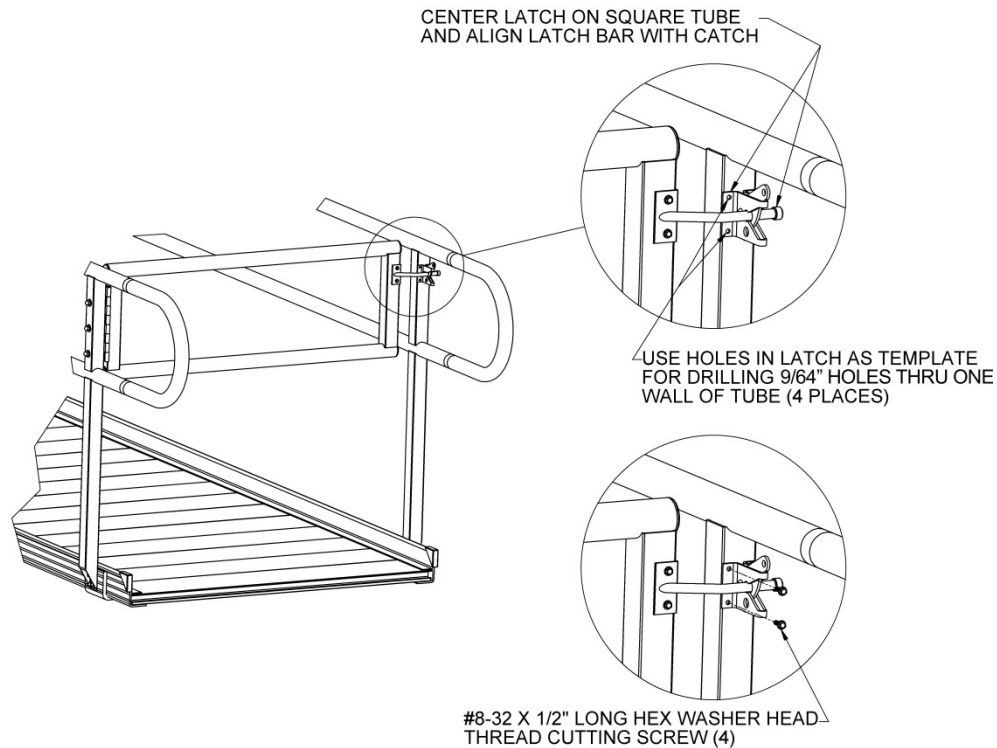

FIG. 5
- 2.9. Hold the latch so it is centered on the ramp handrail post opposite the post where the gate is installed and on the outswing side of the gate then align the catch with the latch bar. While holding the latch in place, open and close the gate a few times to confirm the catch is working correctly and reposition up or down if needed. After confirming the position, mark the hole centers and drill four 9/64" holes through one wall of the ramp handrail post at the marked locations (FIG. 5).
- 2.10. Attach latch to the post using four #8-32 x 1/2" long hex washer head thread cutting screws (FIG. 5).